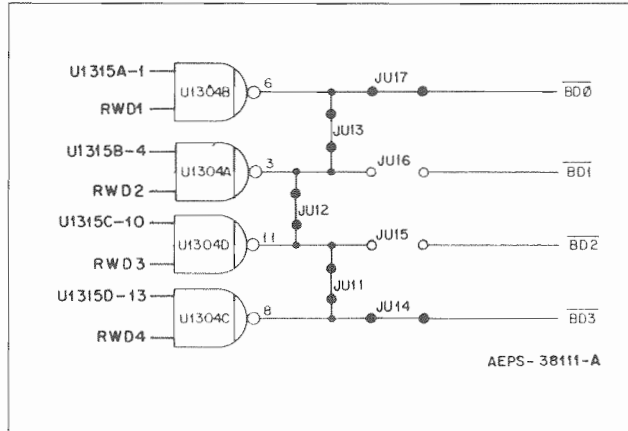

Figure 6.
- JU11, 12, 13 These jumpers allow more than one reverse wildcard input signal to be jumpered to one of the four MUXbus data lines BD0 thru BD3 by using either JU4, JU5, JU6 or JU7. See Figures 6 and 7. Also refer to Table 6.
In Figure 6, the desire is to signal the MUXbus via BD0. Notice, however that data lines BD0 and BD3 are shorted together via JU11, 12, and 13. This condition will cause a station malfunction, since two data lines are shorted together. To correct the problem of Figure 6, two solutions are possible. Remove JU12, which would allow either a RWD1 or RWD2 input to signal MUXbus bit BD0. Also, RW3 and RW4 would signal the MUXbus via BD3.